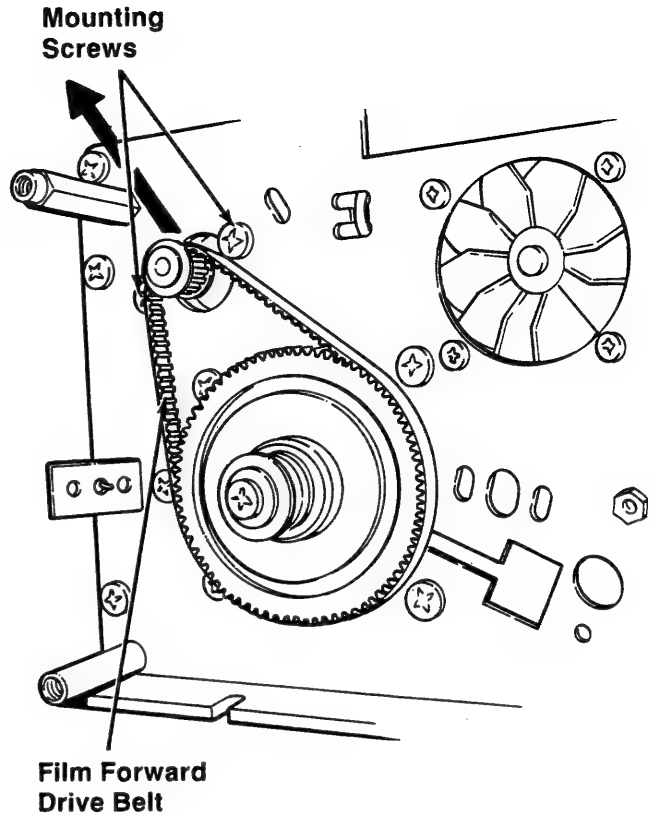

Figure 3-3A
6. Place a Ruler near the center of the Film Forward Drive Belt (Figure 3-3A) and push down. The deflection should measure 4 mm to 5 mm (0.16 in. to 0.20 in.)
1. Loosen the mounting screws securing the Film Forward Motor (Figure 3-3A).